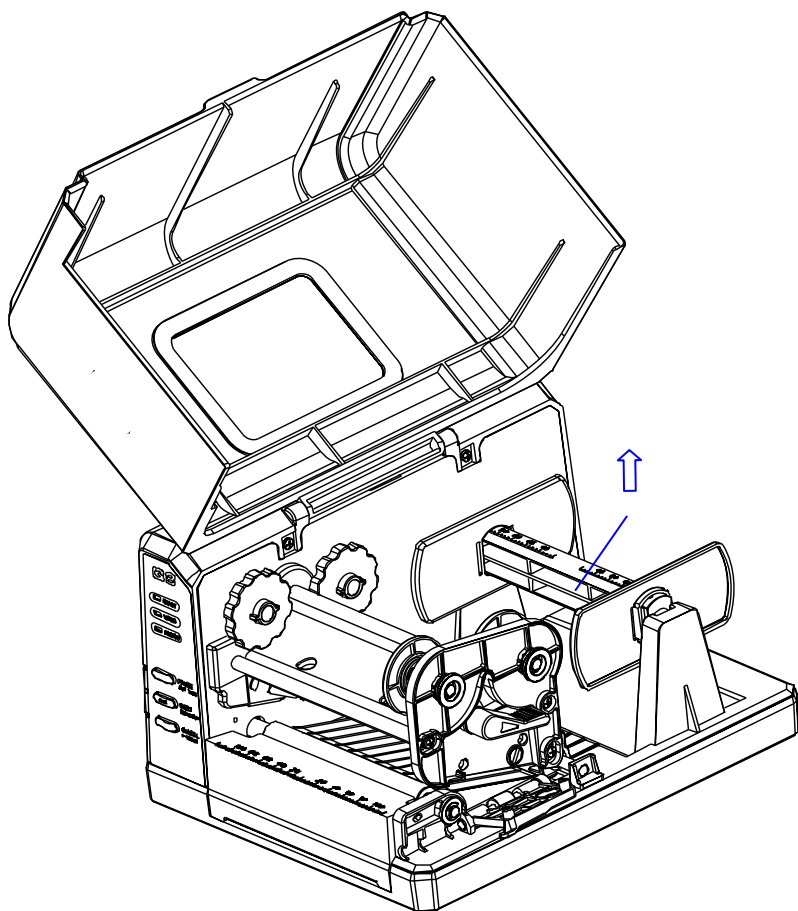

Figure 6-1
2. Take out the Media Spindle (see Figure 6-1).